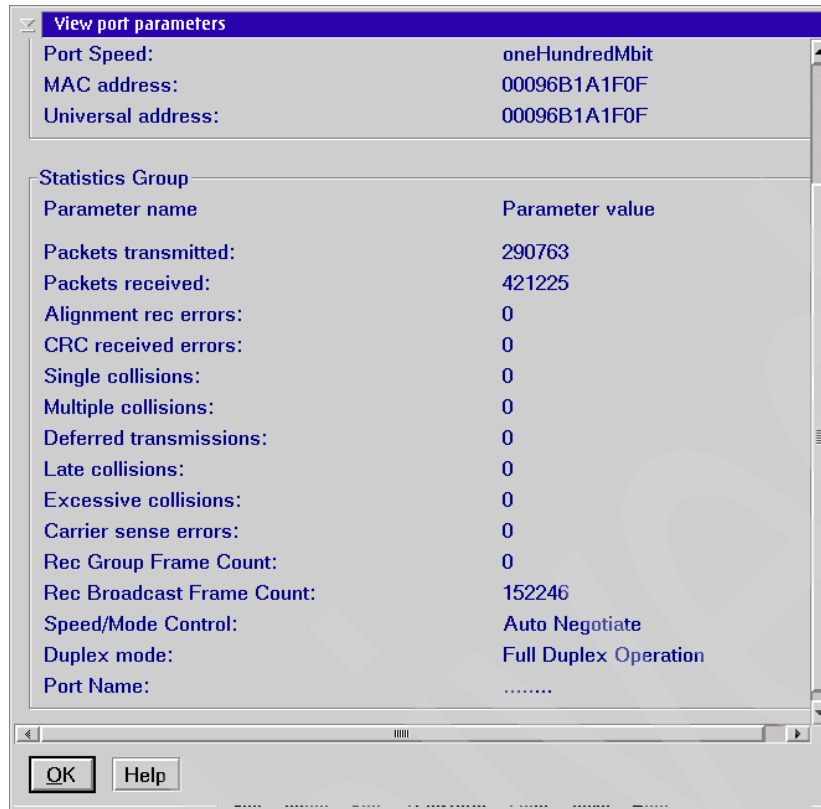

Figure 4-6 View port parameters part 2
3. Use the vertical scroll bar on the right side to scroll down the panel (see Figure 4-6 on page 72).